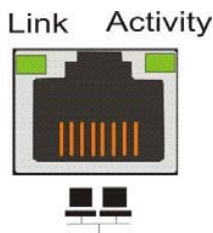

Figure 4-6: LAN Indicators
A shielded Ethernet cable is recommended for connecting the RJ-45 Ethernet management port to a local network after you configure an IP address. This enables you to manage your subsystem via LAN or WAN. Two (2) LEDs on the Ethernet port indicate connection statuses. See **Figure 4-6** for the locations of the LED indicators. Refer to **Table 4-6** for the LED definitions.